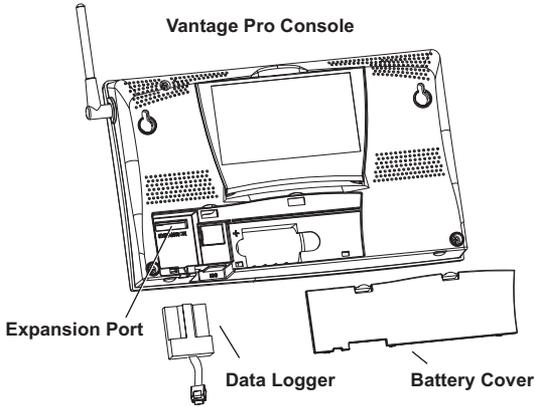
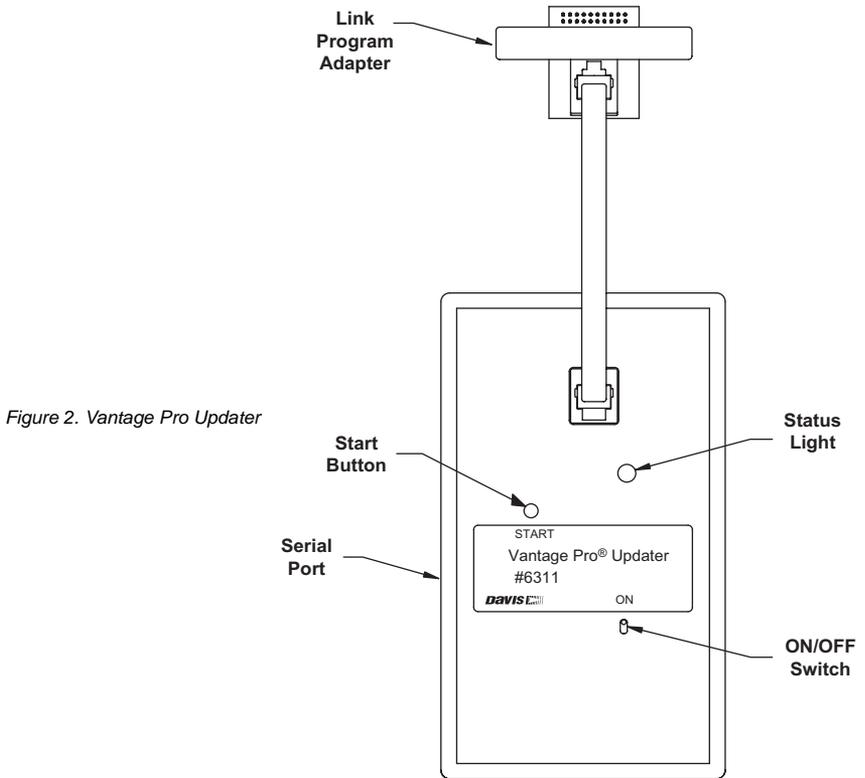

Figure 1. Data Logger and Console
Figure 2. Vantage Pro Updater
6. Insert the Link Program Adapter (See Figure 2) into the console expansion port. See Figure 1 for location of port. It's the same port used by the WeatherLink data logger.
2. Connect the included serial cable to the Updater's serial port (see Fig. 2). The other end of the cable connects to the serial port on your computer using the included serial port adapter.
3. Turn the VP Updater ON using the ON switch (see Figure 2).